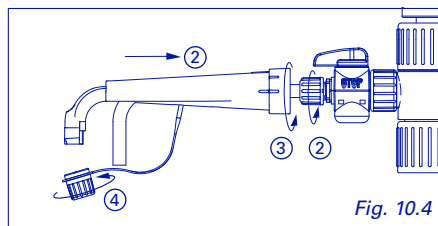

Fig. 10.4
- 3 Attach delivery jet to stopcock (Fig. 10.4)